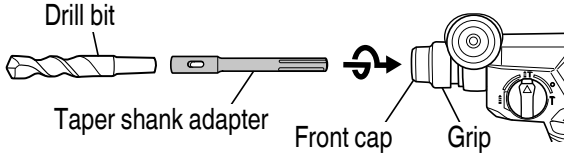
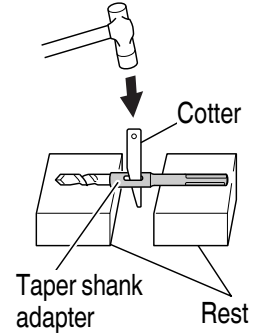

Fig. 30
Fig. 31
- (1) Mount the taper shank adapter to the rotary hammer. (**Fig. 30**)
- (2) Mount the drill bit (taper shank) to the taper shank adapter. (**Fig. 30**)
- (3) Turn the switch ON, and drill a hole in prescribed depth.
- (4) To remove the drill bit (taper shank), insert the cotter into the slot of the taper shank adapter and strike the head of the cotter with a hammer supporting on the rests. (**Fig. 31**)